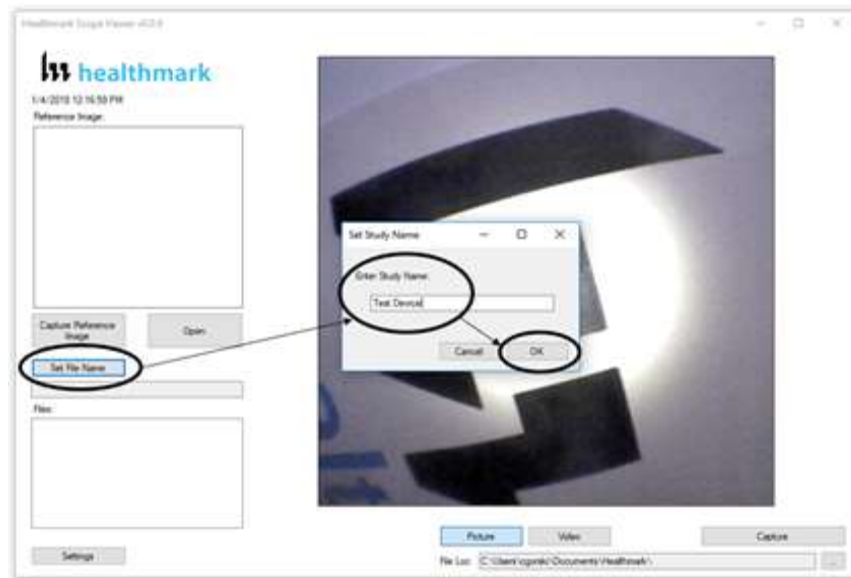

Figure 15
1. Click 'Set File Name' Button. **Fig. 15**